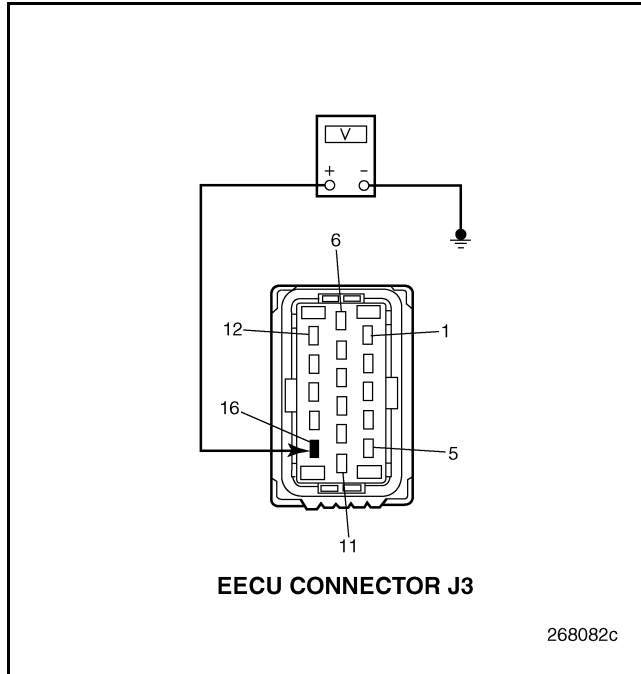

Figure 788
5. Measure the voltage between the EECU connector J3 pin 16 and a good ground (see Figure 788).